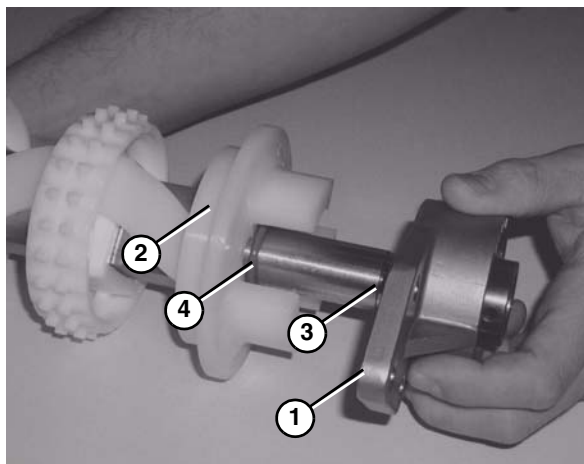

Figure 62
9. Slide the 3 hole flange with bearing (Figure 62, item 1), spacer (Figure 62, item 3), O-Ring (Figure 62, item 4), and flanged puck (Figure 62, item 2) off the drive spindle.